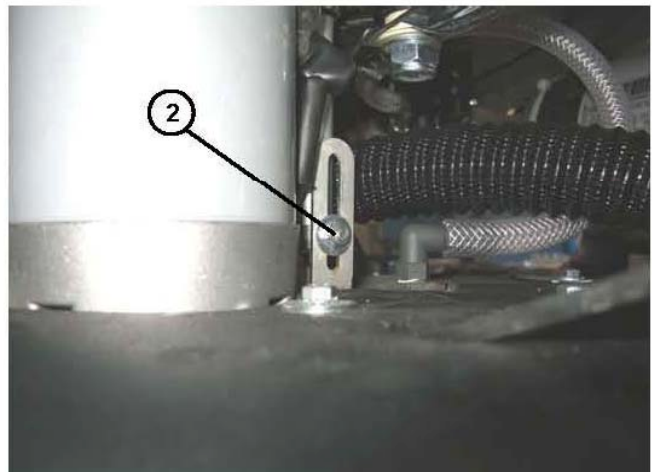

Figure 7-5
7. Unscrew the screw with nut (2, **Figure 7-5**) securing the actuator to the head.